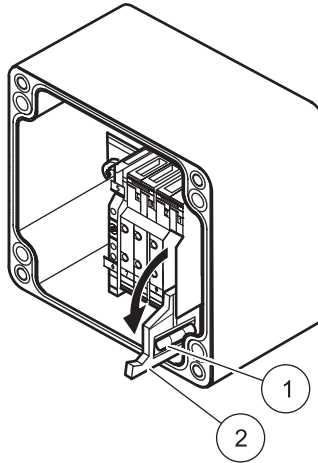
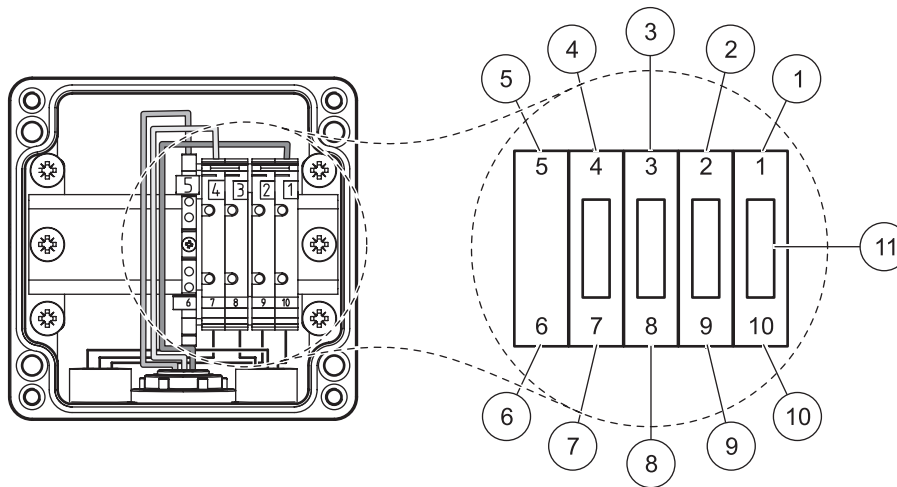

Figure 7 Fuse holder
Figure 8 Wiring plan (see inside of the cover)
8. Open the fuse holder of clamp 1 by pulling down (Figure 7 on page 7).
9. Connect the AC hot wire to clamp 1 (Figure 8 on page 7) and tighten the screw.
3. Open the fuse holders (there are 2 fuses for each analyzer connection, one for hot and one for neutral, Figure 7 on page 7) and replace the damaged fuse(s) with a fuse of the same type and rating (T 5 Amp (slow blow) H, 250 V). Close the fuse holder (item 11, Figure 8 on page 7).